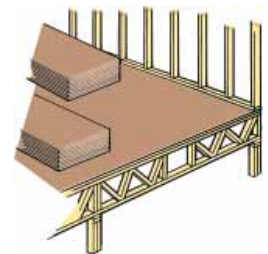

FIGURE B1-39
- ✔ Position stacks of materials flat with the longest dimension perpendicular to the trusses as shown in Figure B1-39.